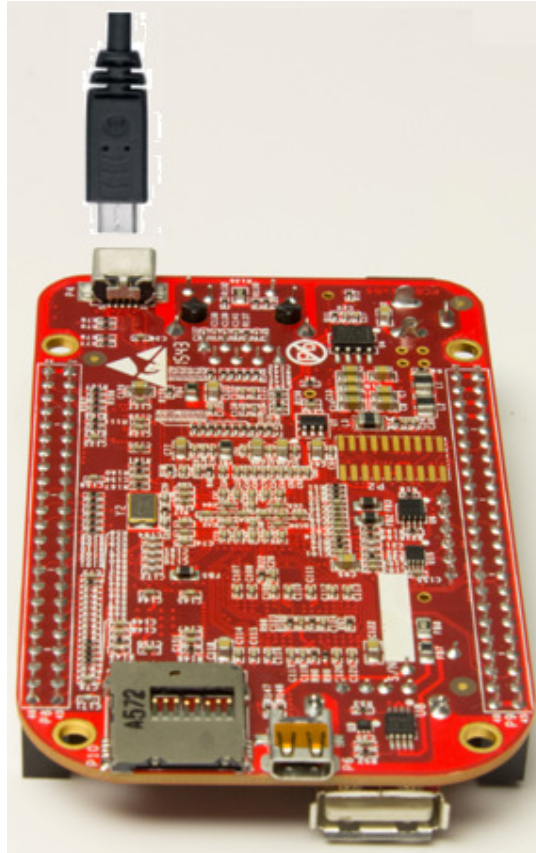

Figure 3 USB Connection to the Board
1. Connect the small connector on the USB cable to the board as shown in **Figure 3**. The connector is on the bottom side of the board.